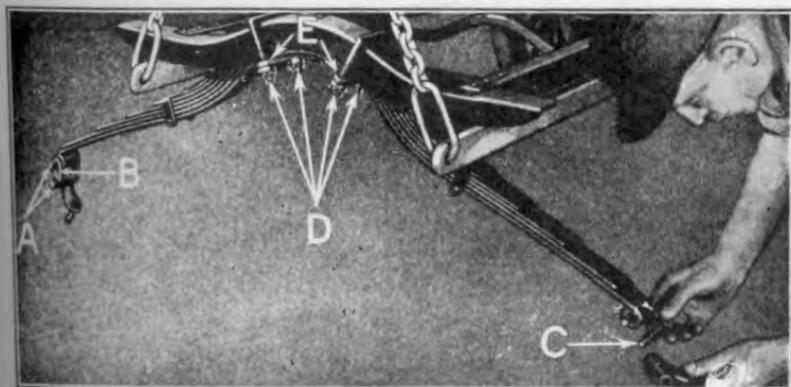

Fig. 56
- (a) Run off spring hanger nuts (See "A" Fig. 56) and withdraw hanger bars "B", perches and hangers can then be withdrawn as shown at "C".